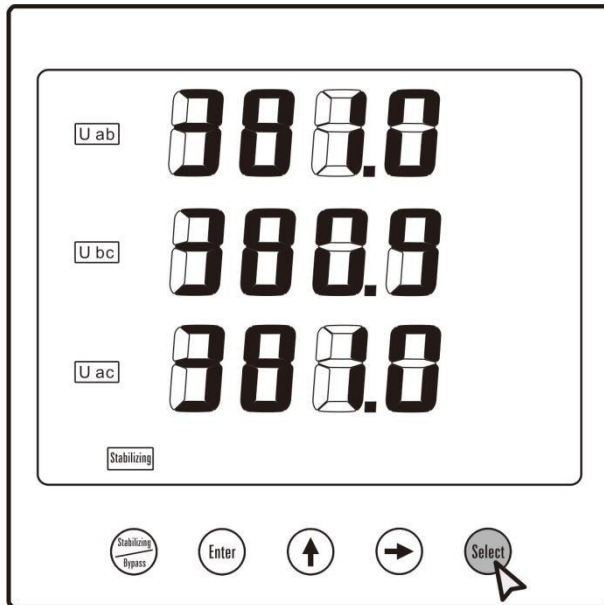

Fig. 3
③ U ab, U bc, U ac indicate line voltage, as shown in Fig. 3